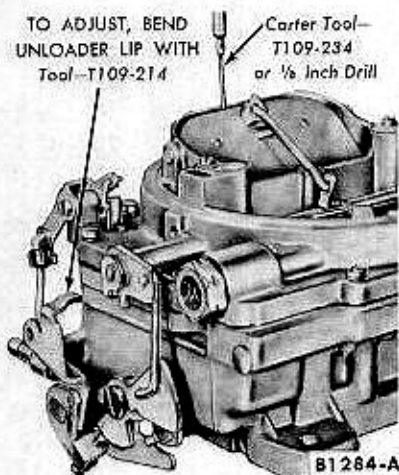

FIG. 49—Unloader Adjustment
1. With the throttle wide open, there should be a clearance of $\frac{1}{8}$ inch between the upper edge of the choke plate and the wall of the air horn (Fig. 49).